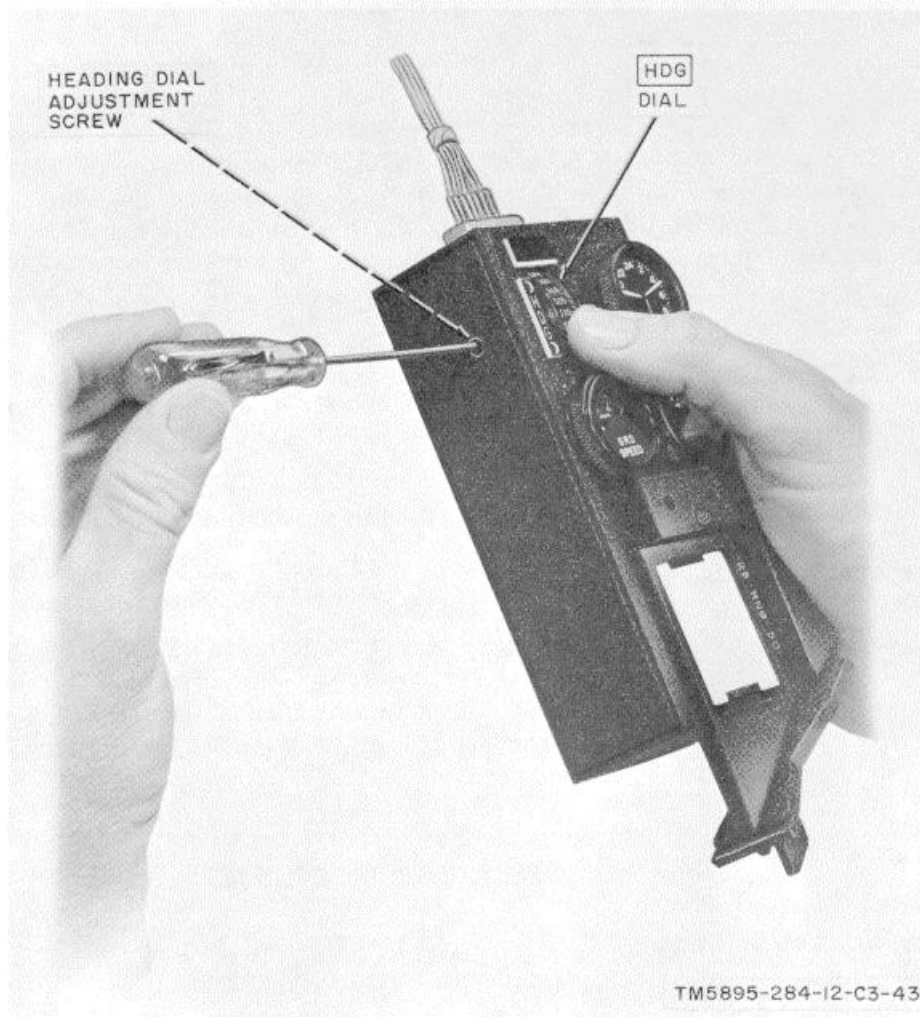

Figure 2-10. Recorder-Processor-Viewer, Radar Mapping, RO-166(*)/UP data chamber, HDG dial adjustment.
(8) Adjust the heading dial by turning the heading dial adjustment screw with a small screwdriver until it reads the same as the aircraft heading indicator (fig. 2-10).